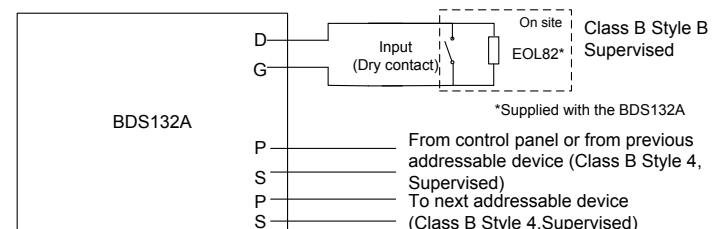

Figure 3 Wiring Diagram
4. Connect the normal open contacts of field devices to terminals "D" and "G" and bridge the terminals at the device end with a terminating resistance (EOL82). See figure 3.